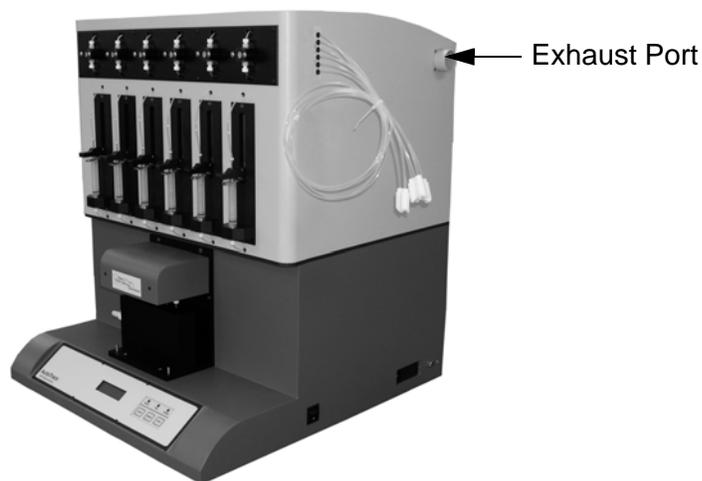

Figure 9. Exhaust Port
- 1 Connect the exhaust hose to the workstation's exhaust port by sliding and rotating the hose onto the port, as shown in Figure 9.